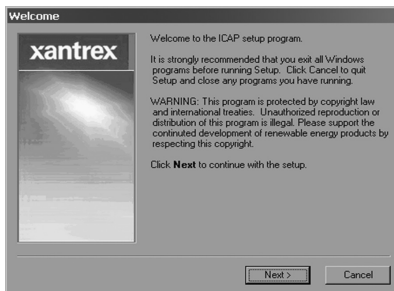

Figure 2-1 ICAP Welcome Screen
1. Insert the CD into your computer’s CDROM drive. If autorun has not been disabled for the CDROM in your computer, the *Welcome* screen shown in Figure 2-1 will appear.